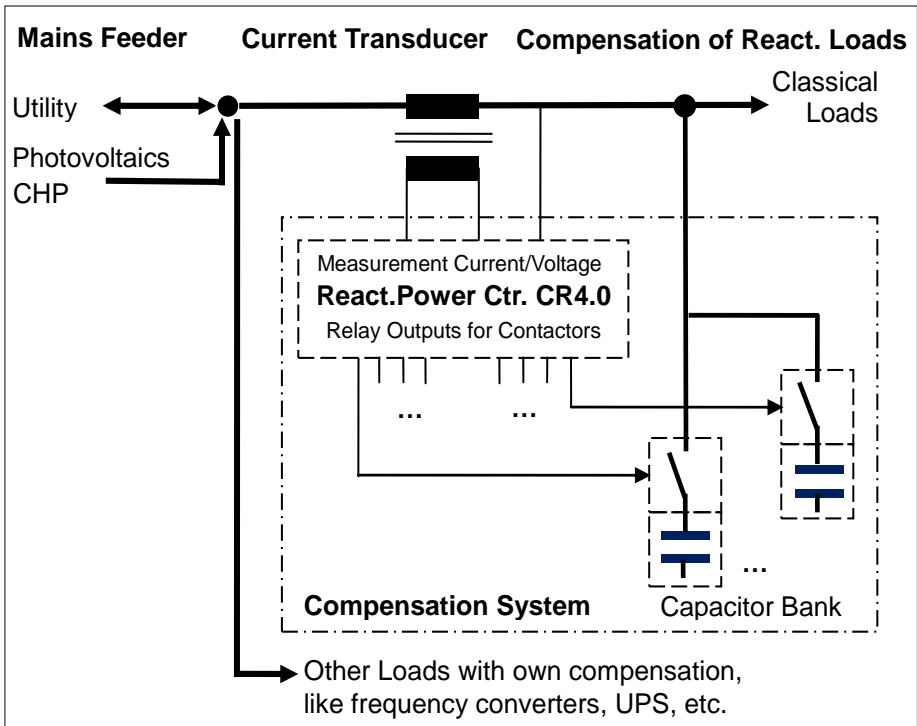

Figure 1 Installation Diagram: Compensation of Classical Loads, only
- The **current transducer** must be placed in-between all left sided feeding equipment and all right sided load equipment including the compensation system itself, see Figure 1 Installation Diagram on page 4. Loads comprising their own compensation (e.g. frequency converters, uninterruptible power supply UPS, etc.) should not be included in the reactive power compensation.
With all feeder and the section switches at the left of the current transducer and all loads to be compensated and the compensation system itself at its right side, see Figure 1 Installation Diagram a standard compensation system fits.
If you have **power generators** (e.g. a photovoltaic plant) installed with the loads **on the right side** of the current transducer (see Figure 1 Installation Diagram) the Reactive Power Controller CR4.0 is not able to see the current between the loads-sided generators and the loads resp. the capacitor bank. Misregulation and particularly switch-off of steps after wrong steps powers measurement may result. Please correct your installation (it would anyway not be accepted by your utility company nor by the subvention authority).
- **Reactive Power Compensation and Emergency Power Supply:** Usually it is recommended that a stationary emergency power plant should not be stressed by a reactive power compensation. The diesel generator itself is able to provide any reactive power needed. For this the emergency power plant has to be connected at the right side of the current transducer, see Figure 1 Installation Diagram. Then the reactive power compensation plant automatically idles when the emergency power plant takes over from the utility feeder.